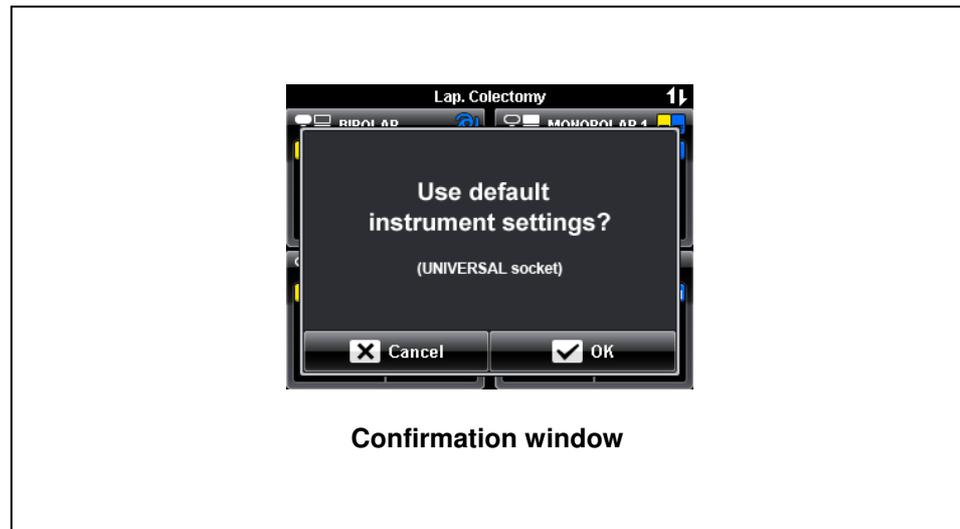

Figure 5.4
- If the current displayed settings of mode, power level and effect are within the allowed range of the connected Olympus HF instrument but not the default instrument settings, a confirmation window according to figure 5.4 will appear. Press the “OK button” to use the default instrument setting and the display switches to the “All screen” or press the “Cancel button” to continue without changing the current settings and the display returns to the last used screen.